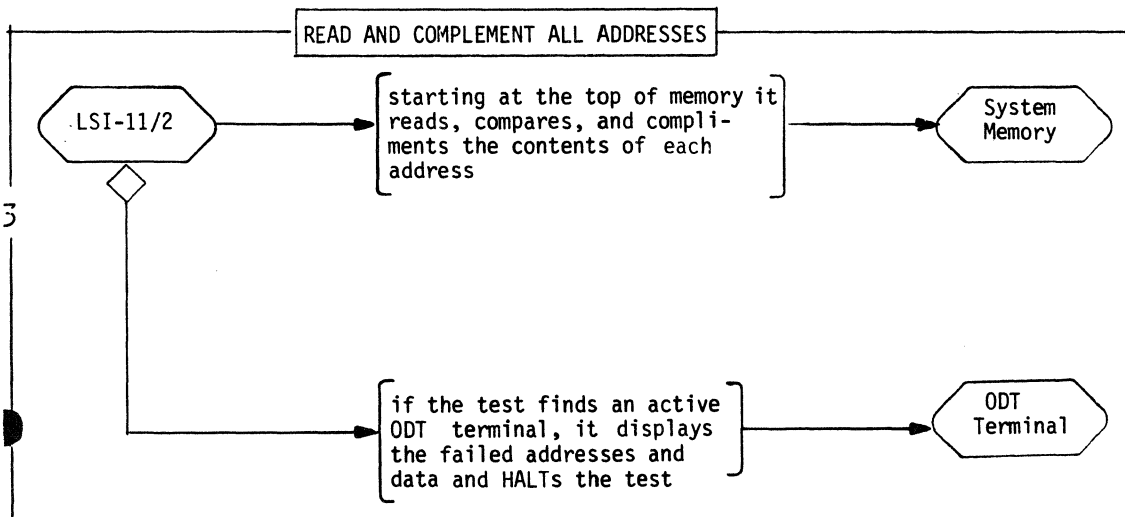

Fig. 3-7. Read and complement all addresses.
3. READ AND COMPLEMENT ALL ADDRESSES (Fig. 3-7). Starting with the highest address, the test reads the contents of every location, compares it to the expected data, and complements the address that it read. The test then proceeds to the next lower address, where it repeats the same sequence. This operation is repeated until all memory locations have been read, compared, and complemented. At that time, the memory pointer has returned to location 10.